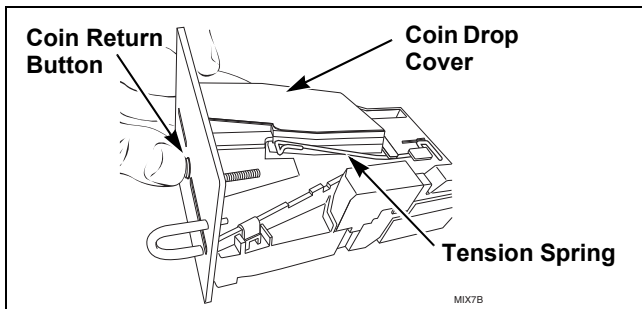
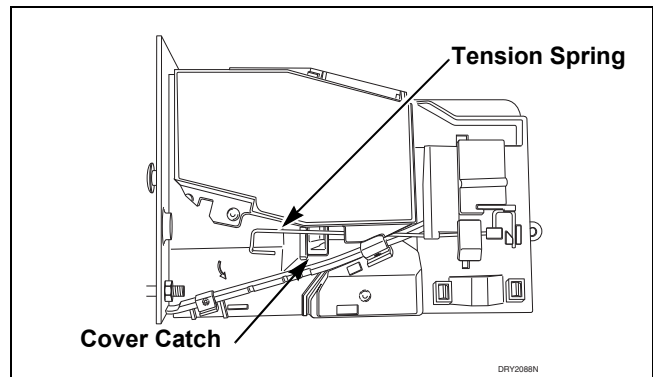
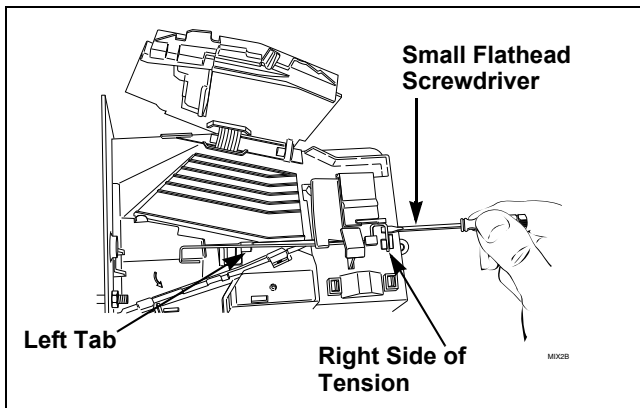

Figure 2
Figure 4
Figure 5
- (1) Clean coin drop. Refer to *Paragraph 27*.
- (2) On electronic coin drops with an old-style tension spring (shown in *Figure 2* and *Figure 4*), test and replace tension spring using the following instructions.
- (1) Push coin return button to open and close coin drop cover to clear possible coin jams. Refer to *Figure 2*.
- (1) Move tension spring downward until cover catch is free. Refer to *Figure 4*.
- (3) Place a small flathead screwdriver under right side of tension spring and lift up. Refer to *Figure 5*.
- (4) Use screwdriver to move spring approximately 3 mm to left.
(5) Lift spring over left tab. Refer to *Figure 5*.
- (13) Lift spring gently to place in position under left tab.
- (14) Push spring to right until it snaps into position. Refer to *Figure 5*.
- (15) Close coin drop cover.
- (16) Move tension spring over cover catch. Refer to *Figure 4*.